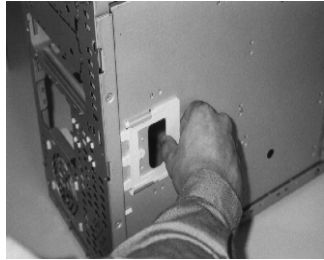

Fig:8
- B. Remove M/B mounting plate by pulling Latch towards back of chassis and swinging out the plate (Fig. 8).